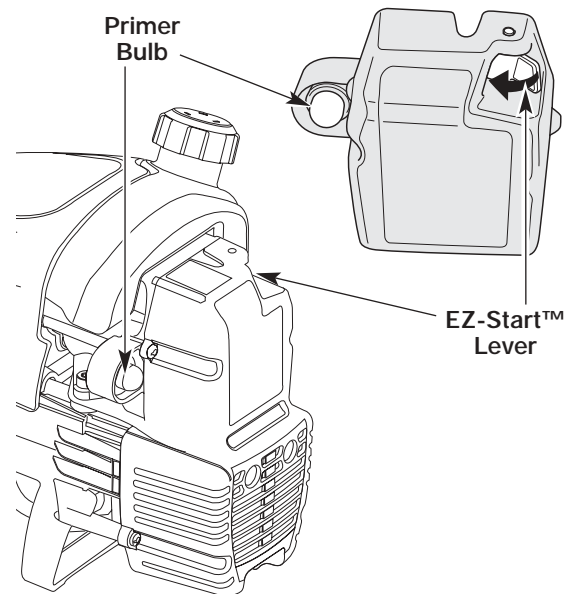

Fig. 7
2. Fully press and release the primer bulb 10 times, slowly. Some amount of **fuel should be visible in the primer bulb** and fuel lines (Fig. 7). If you can't see fuel in the bulb, press and release the bulb as many times as it takes before you can see fuel in it.
3. **Push the EZ-Start™ Lever towards the primer bulb** until it clicks and locks into place (Fig. 7).